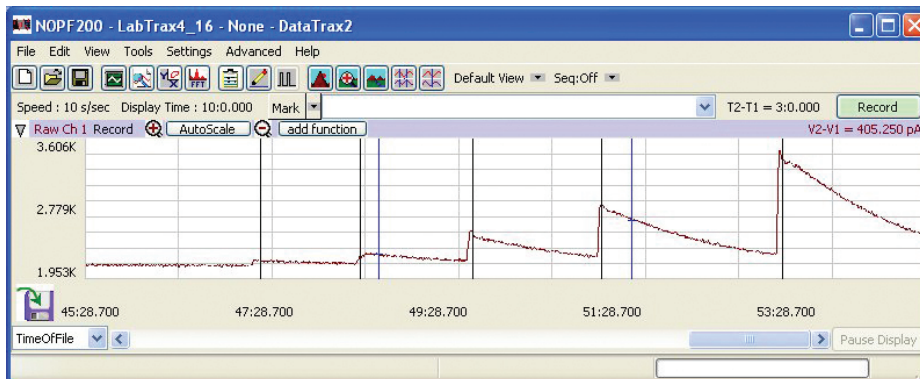

Fig. 44—Raw data for ISO-NOPF200
1. Record data for known samples (**Fig. 44**). The example used a ISO-NOPF200 probe, and the recording shows the results of nitrous oxide (NO) measurements when 2, 4, 8, 16 and 32 μ L injections of 100 μ M SNAP are introduced into 20mL of 0.1M CuCl₂ solution. The voltage quickly increases with each addition of SNAP. Then, the value steadily decreases due to the quick oxidation of NO. After each injection, the graph shows a small upward peak. This is a normal artifact generated mechanically by the response of adding SNAP to the solution.